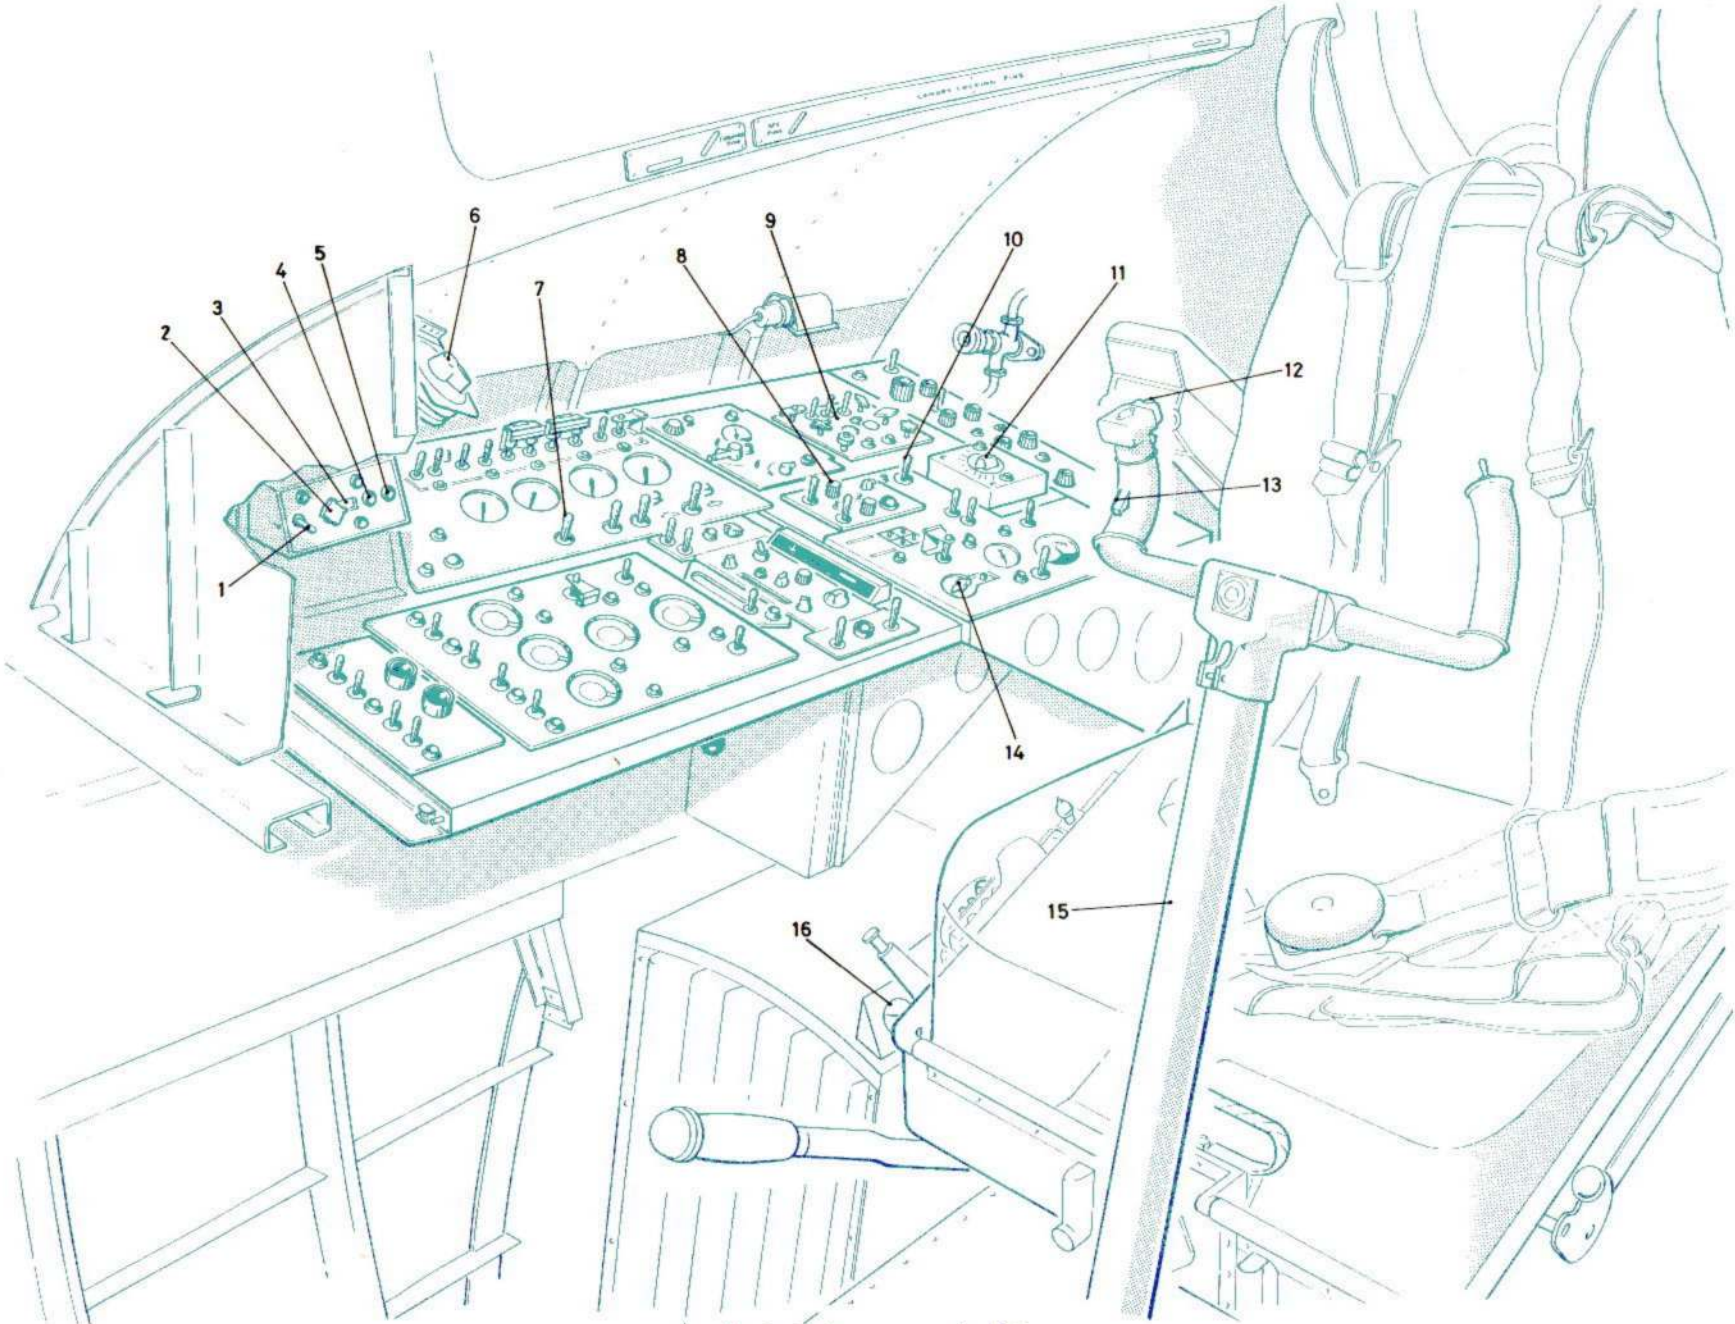

Fig.2 Flying controls (2) ◀MOD 4990▶
- 45 Control column-For details of control wheel refer to fig. 2.
Key to Fig. 2 - FLYING CONTROLS (2)